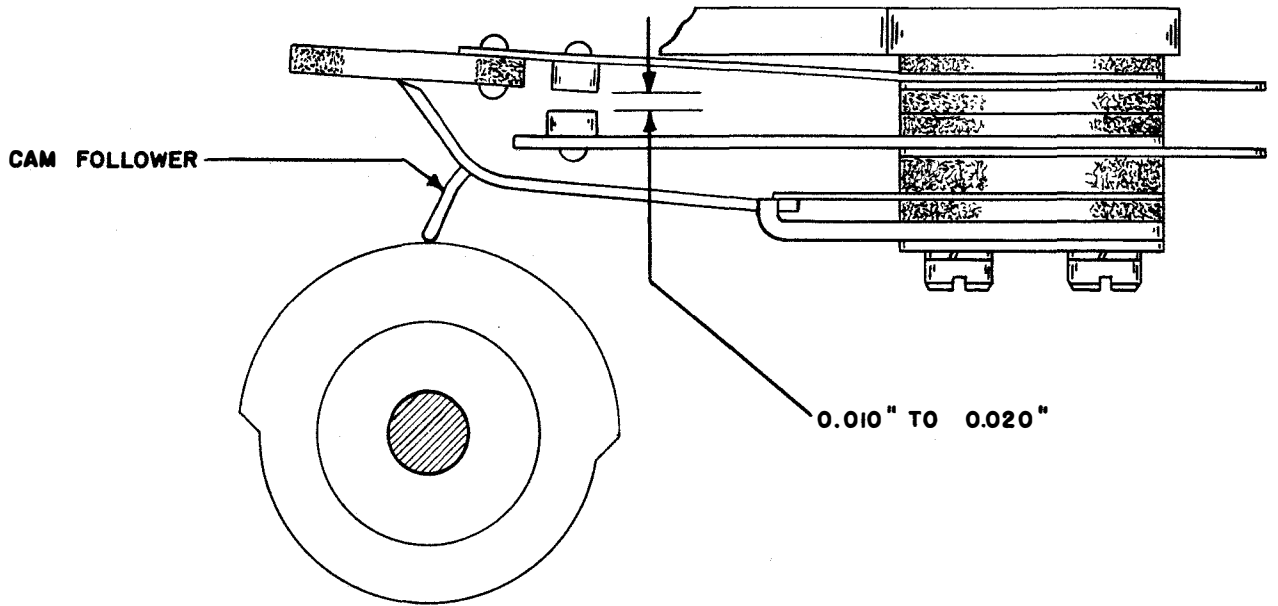
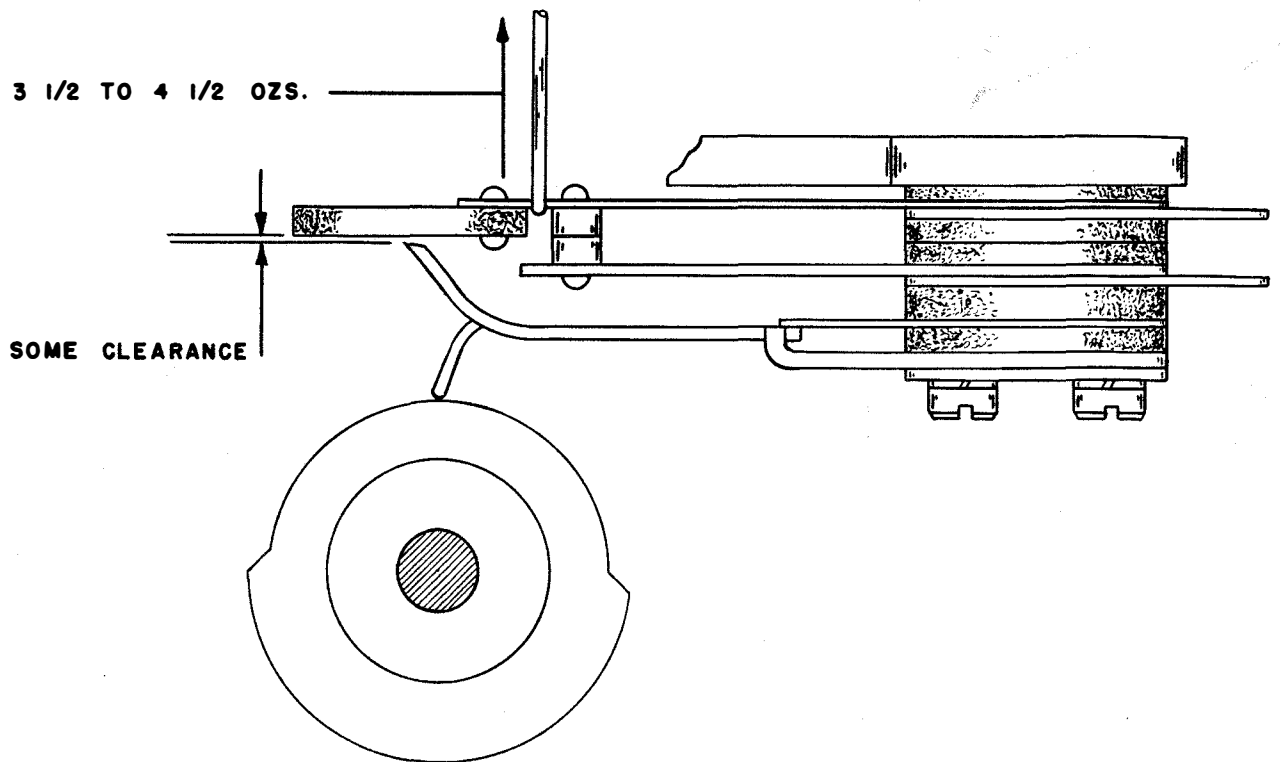

FIGURE 1
FIGURE 2
(1) Contact Alignment (Figure 1) The cam follower must ride centrally on the cam and the contact points must be in alignment. To adjust, loosen screws and shift contact assembly.
(2) Contact Clearance (Figure 1) With the cam follower on the high part of its cam, there should be .010" to .020" clearance between the contacts. To adjust, bend lower spring.
(3) Contact Tension (Figure 2) With the cam follower on the low part of its cam, it should require between 3-1/2 and 4-1/2 ozs. to just separate contacts. Contact surfaces must meet squarely when closing. To adjust, bend springs. Recheck contact clearance (Figure 1).
(4) Cam Follower Clearance (Figure 2) There must be some clearance between the cam follower and the contact spring extension when the cam follower is in the indent of the cam. To adjust, refine and recheck the contact adjustments (sub. pars. (1), (2) and (3) above).